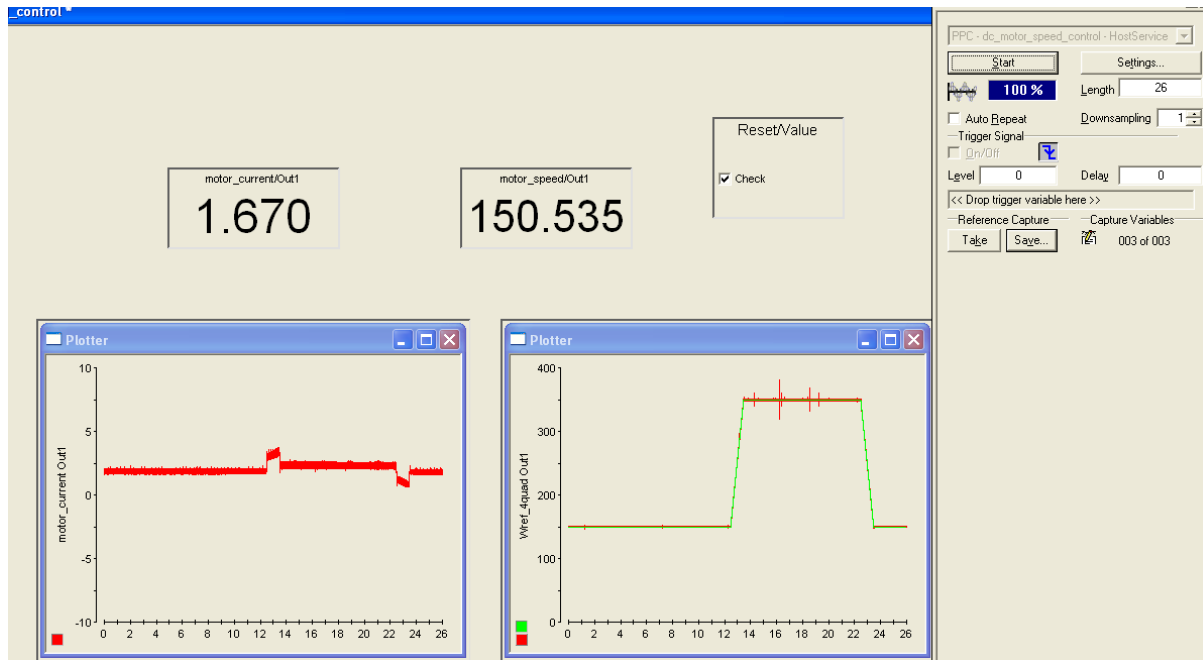

Figure 5.9: Control-desk interface for DC motor control for step from 150 rad/sec to 350 rad/sec
- Open the variable file (.sdf) and then open the layout file ‘**dc\_motor\_speed\_control.lay**’ and add values as shown in Fig.5.9.